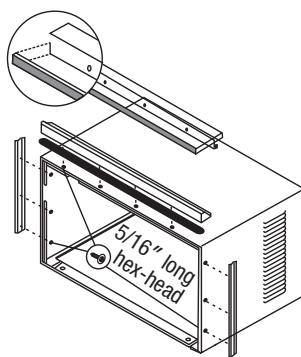

FIG. 8
2. Install top angle and side retainers to cabinet, as shown in Fig. 8. (10 screws)